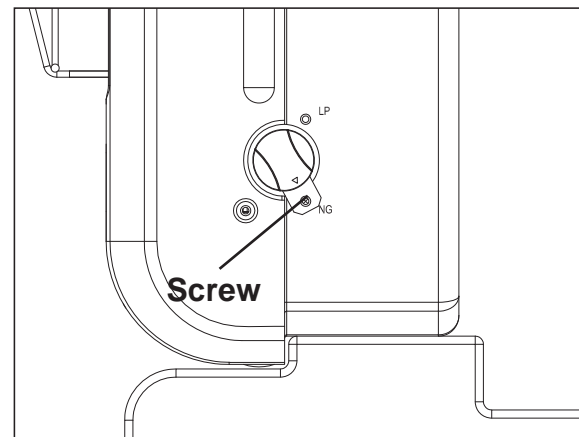

Figure 19 - Remove Screw
1. Before gas conversion, remove knob lock by removing screw. (See Figure 19 & 20)